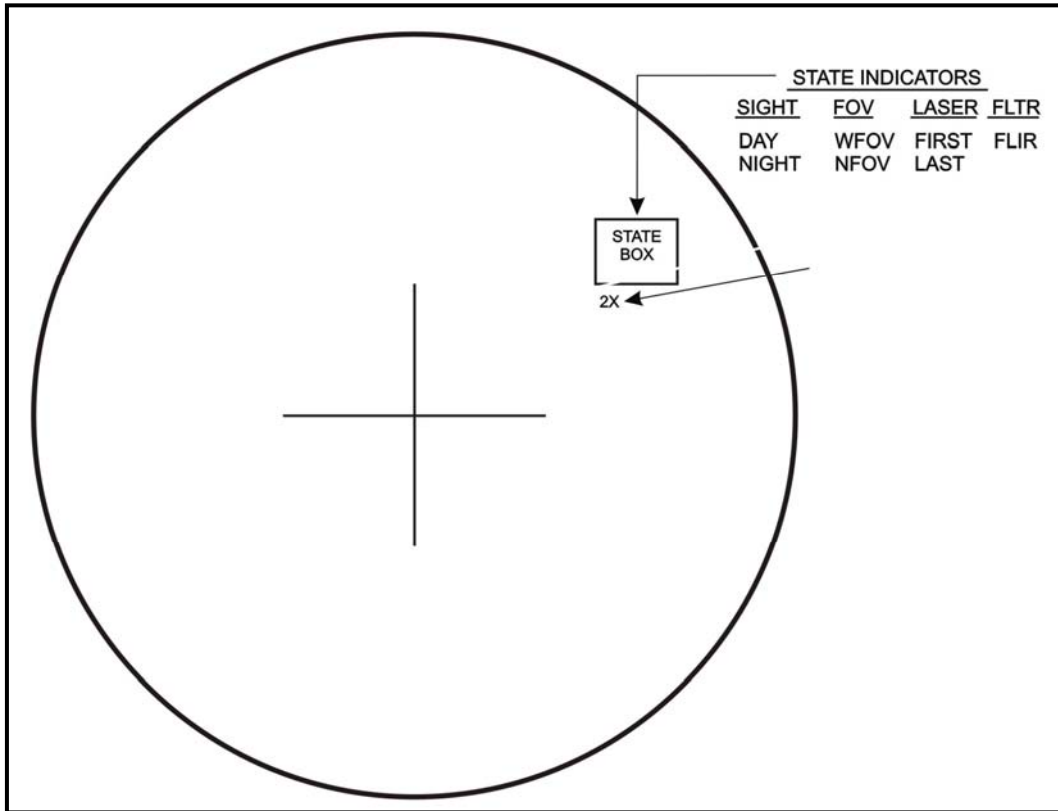

Figure 2-25. State indicators.
(2) **STATE Indicators.** The ITAS has four state indicators (Figure 2-25, page 2-18) that provide status information on the system once its is placed into operation. Information about what state the system is currently operating in can be found in the state box of the TAS display. The gunner can change the system state by using the respective switches on the left handgrip control (Table 2-1, page 2-18).